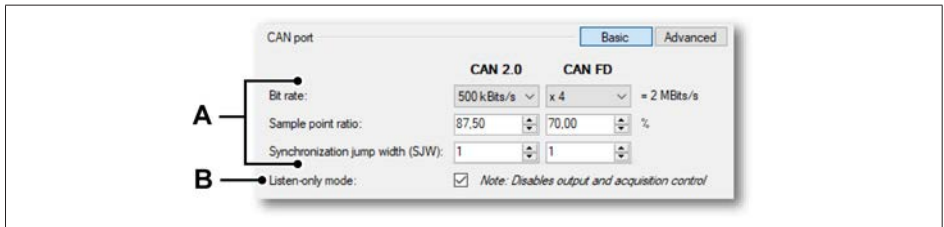

Fig. 12.15 CAN port settings
- A Select the CAN port setup option to open the CAN port settings (see Fig. 12.15)